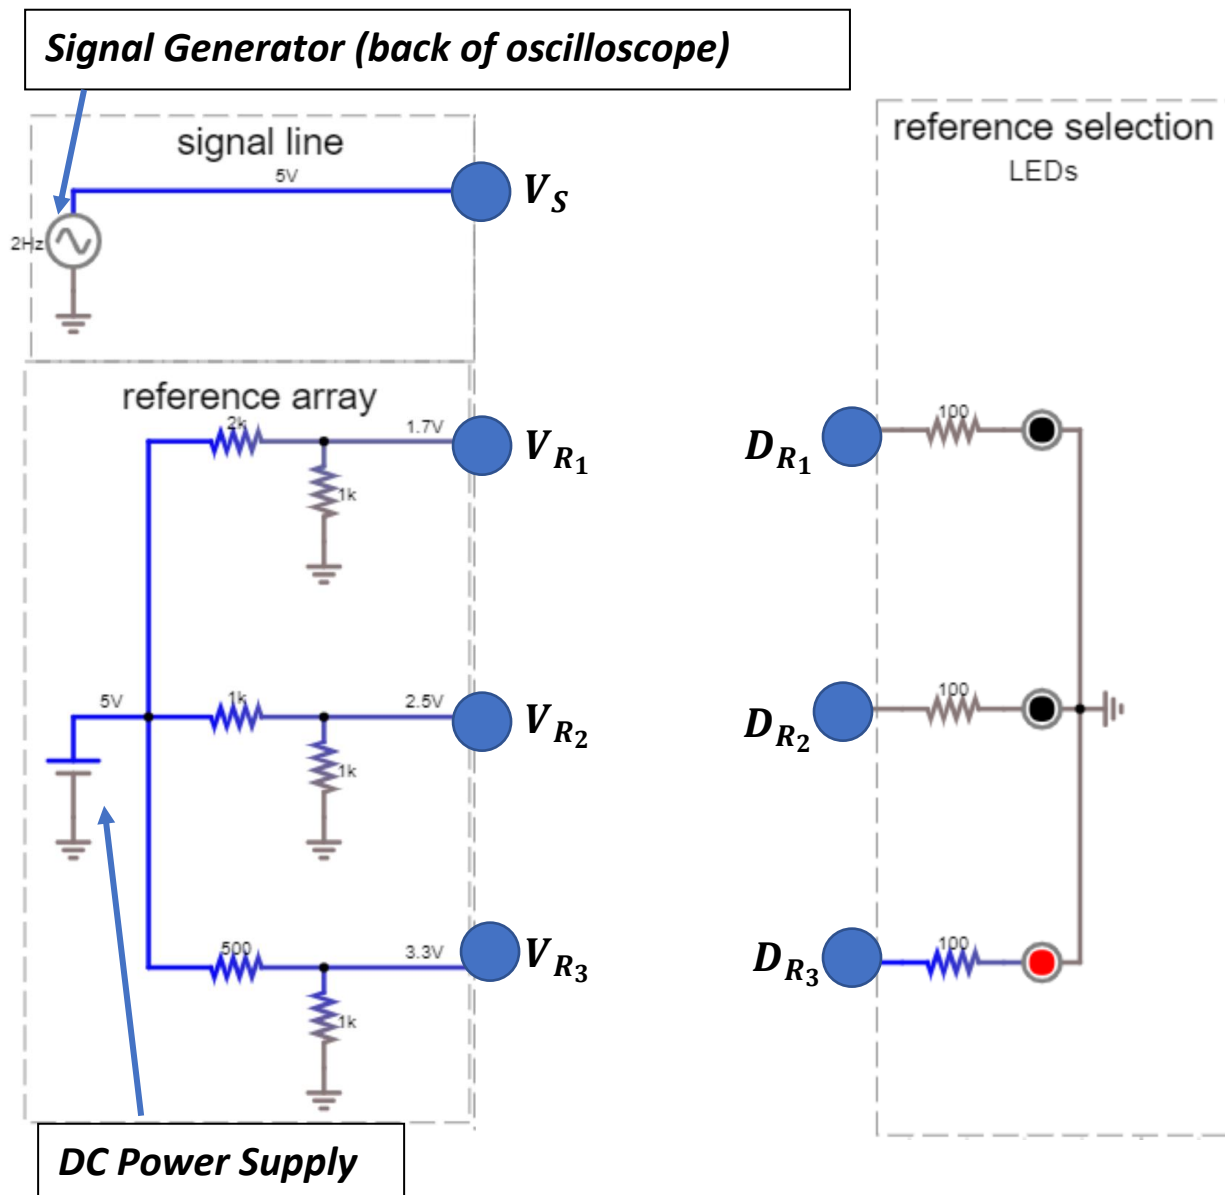

Figure 10 – Initial circuit setup for lab 5 and naming convention
3. Use this breakdown to create an algorithm to solve the problem. In this algorithm make sure the use the naming convention given in the initial setup circuit in Figure 10
9. When setting up the resistor network create three voltage dividers: in each case use the 1k Ohm resistor as the bottom resistor (the one that connects to ground). Follow the circuit in Figure 10 to setup the input and output circuits.